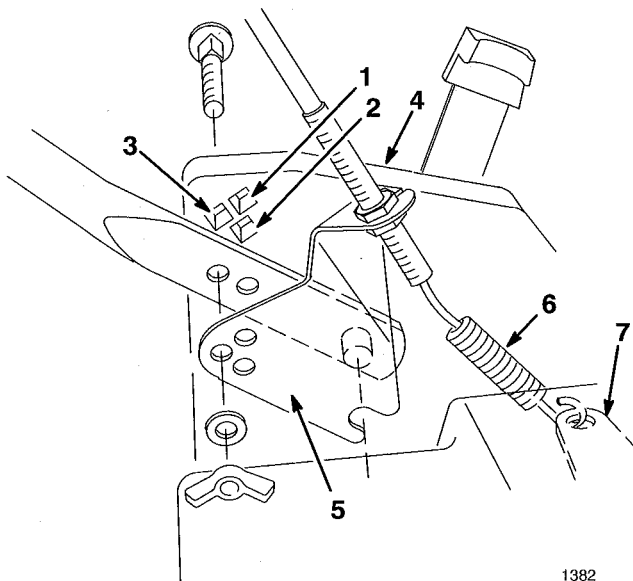

Figure 2
Handle may be placed in three (3) operating positions, high, medium or low (Fig. 2). Select a handle height position that is most comfortable for you.
1. Align holes in lower handle section with holes in mower housing. Using hardware shown in Figure 2, secure handle to mower housing.
1. Hook traction cable spring into actuator bracket as shown in Figure 2.
2. Match three (3) holes in traction cable bracket to three (3) holes in left side of mower housing. Secure bracket with handle hardware (Fig. 2).